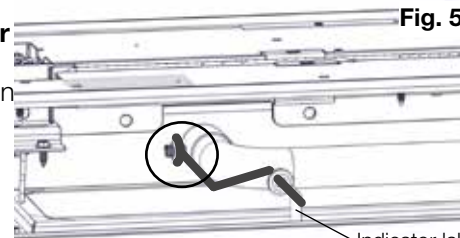

Fig. 5
- ☐ 10. Position the burner assembly in place inside the firebox but do not secure. Lift the burner assembly up then manually engage the larger end of the rod over the left side of the new air shutter. Ensure the rubber grommet is correctly positioned around the air shutter stud (**Fig. 5**). Once fully engaged, secure the burner assembly. **Ensure the orifice is engaged.**
- ☐ 13. Install indicator label (supplied, if applicable) onto the end of air shutter adjustment rod (**Fig. 5**).